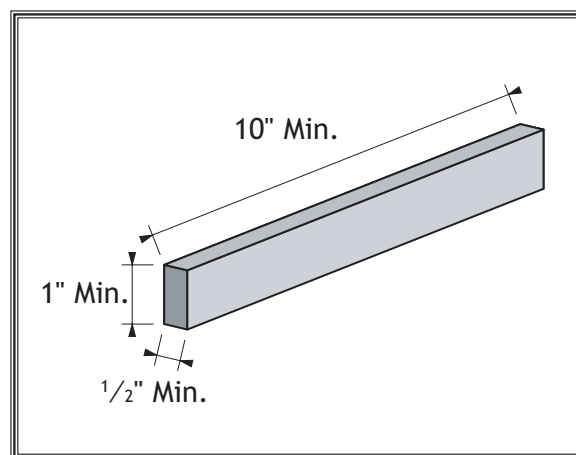

Figure 28. Minimum dimensions for edge jointing.
- **Make sure your workpiece exceeds the minimum dimension requirements (Figures 28 & 29) before edge jointing or surface planing, or it may break or kick back during the operation!**